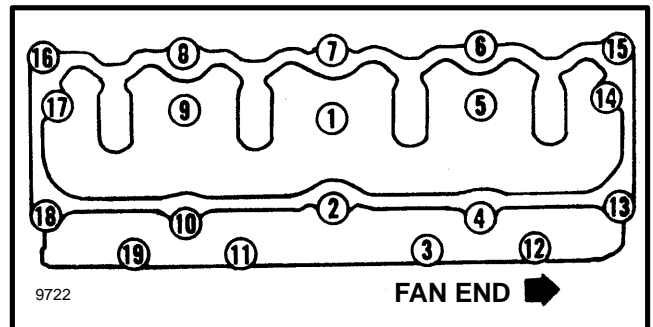

FIGURE 23. TIGHTENING SEQUENCE FOR INSTALLATION OF THE CYLINDER HEAD
4. Apply a thin layer of clean engine oil on the threads of the cylinder head bolts. Install and tighten the bolts to a torque of 65 N.m (47 lbf ft) in the sequence shown in FIGURE 23. Use the sequence again and tighten the bolts to a final torque of 78 N.m (58 lbf ft).